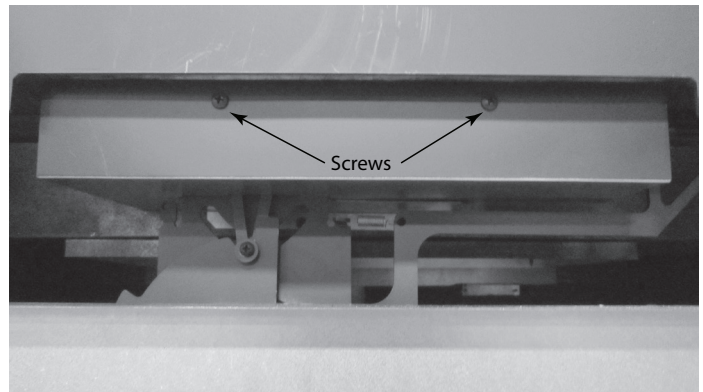
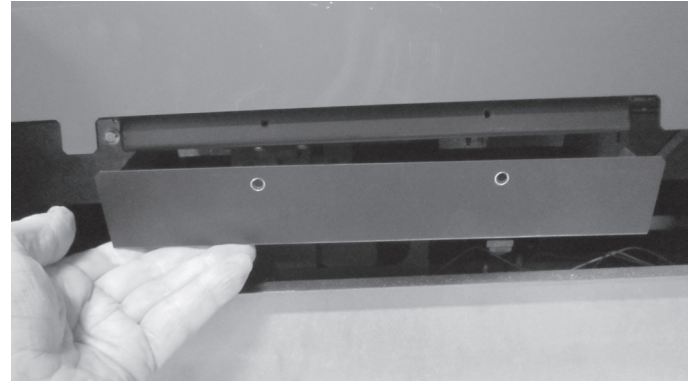

Figure 4.26 Air Chamber Cover
Figure 4.27 Removal of Air Chamber Cover
12. Reinstall air chamber cover. See Figure 4.26.
2. Remove the two (2) screws in the cover. See Figure 4.26 and pull it down and off. See Figure 4.27.